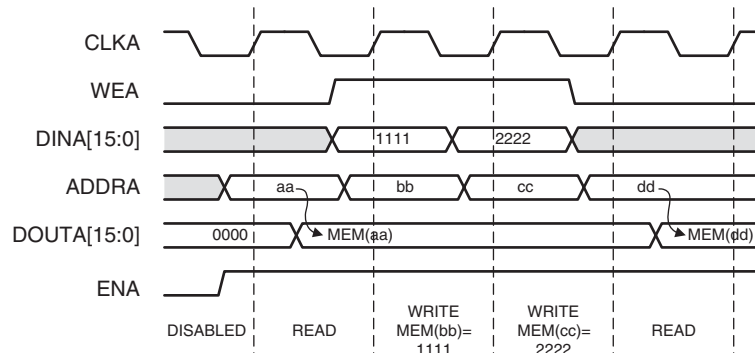

Figure 11: No Change Mode Example
- **No Change Mode:** In NO_CHANGE mode, the output latches remain unchanged during a write operation. As shown in Figure 11, the data output is still the previous read data and is unaffected by a write operation on the same port.